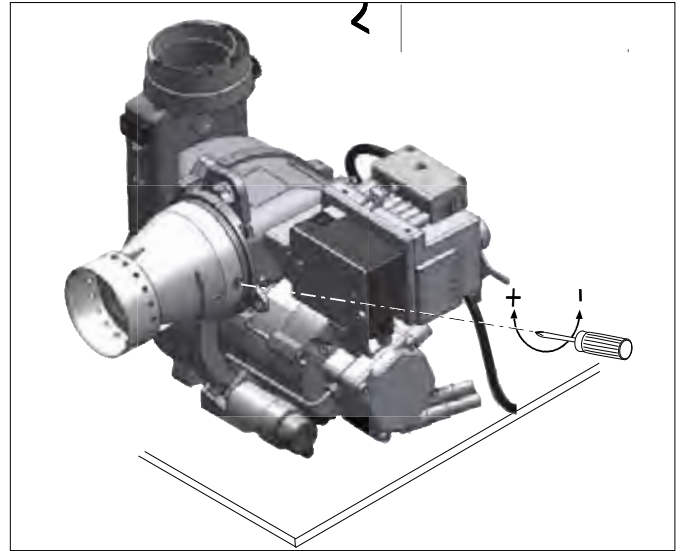

Figure 10-3: Removal of burner head
1. Remove the burner head. Refer to Figure 10-3. Loosen the two fixing screws and remove the head from the burner.
7. Re-fit the burner head. Refer to Figure 10-3.
- If necessary, adjust the diffuser position by rotating the adjustment screw, located on the front of the burner, using a 4mm Allen key. Refer to Figure 10-3. Re-check the diffuser setting using the gauge, as described above.
- Adjust the burner air damper by rotating the adjuster knob (see Figure 10-3) to achieve the required %CO₂.